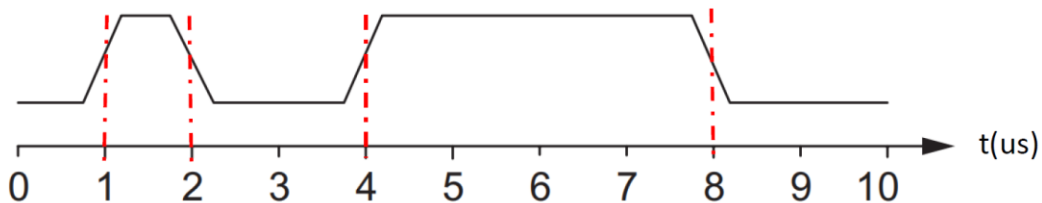

Figure 2. An input signal.
Consider an input signal as shown in Fig.2. and its rising and falling time are 100ps. The clock rate is 1MHz. Determine the activity factor for the signal.
B. Using Fig.2 as an input signal and using hspice to measure the power of circuit you designed in 1C-a. Additionally, you have to calculate the dynamic power and compare with hspice measurement result to explain the difference.